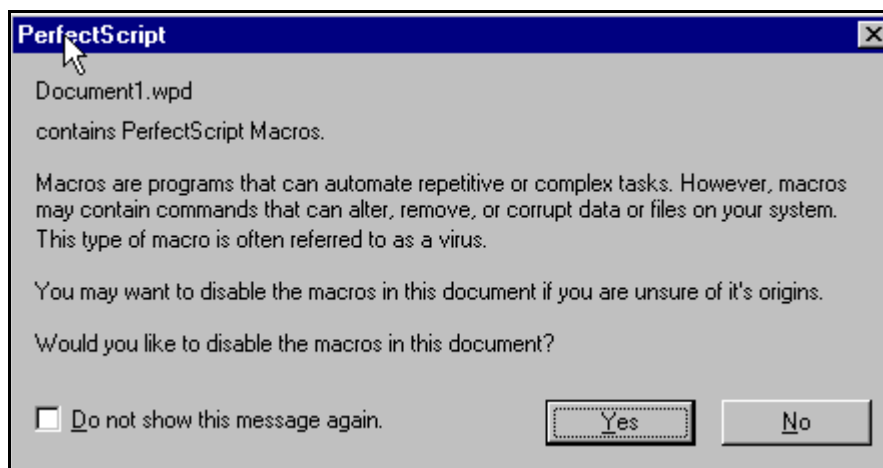

Figure 4-2 Macro Warning
3. Select the **Specification** template from the window and click on the **Create** button. The macro warning in Figure 4-2 may appear. Click the **No** button. The Specification document opens.